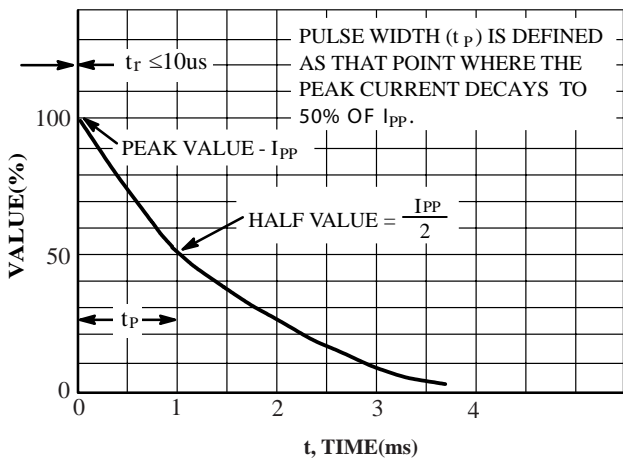
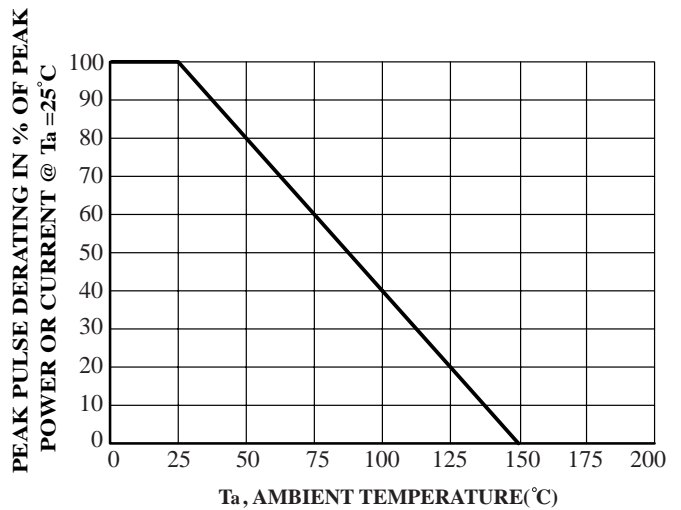

FIG.5 Pulse Waveform
FIG.6 Pulse Derating Curve
NOTE: 1. Non-Repetitive Current Pulse, per FIG 5 and Derated above T_A=25 °C per FIG 6.
6. Surge current waveform per Fig 5 and derate per Fig 6